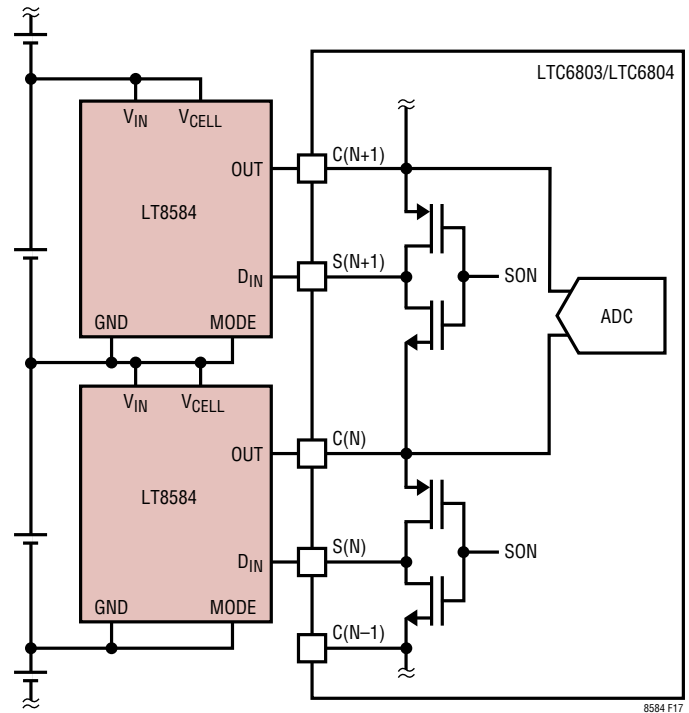

Figure 17. LTC6803/LTC6804 Simplified Connections
The LTC680x has an internal multichannel differential ADC that measures the voltage between each consecutive pair of C pins. Figure 17 shows the ADC connected to C(N) and C(N+1), measuring the difference between the two adjacent LT8584's OUT pins. Most parameters require two measurements, one with the top LT8584 selecting V_{CELL} and another one with the top LT8584 selecting the desired parameter. The difference between these two measurements yields the desired parameter value. This is required since the LTC680x is not directly connected to the battery cells. See the Serial Mode Differential Measurements section for more detail.
internal impedance from V_{CELL} to OUT is approximately 55Ω. Note that the effective capacitance on the OUT pin becomes 2× 47nF or 94nF. Figure 17 has omitted these capacitors for the sake of simplicity (see the Typical Applications for proper connection of the filter capacitors).
Clarified Figures 17, 18	30, 31